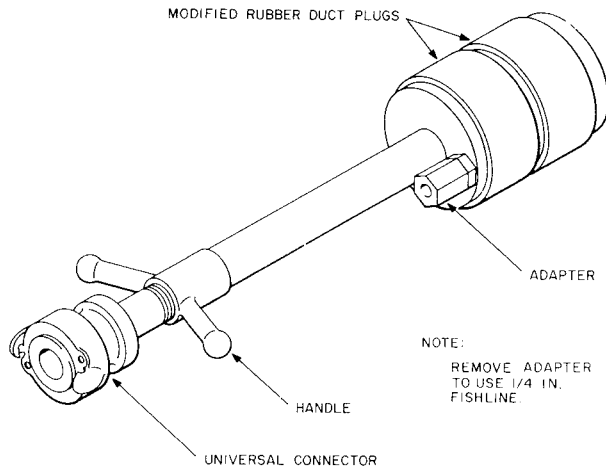
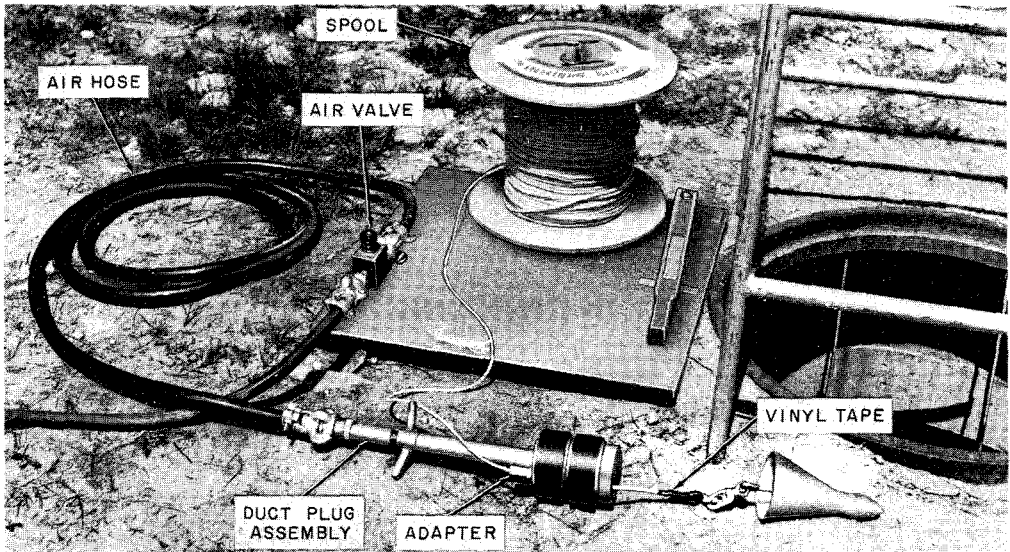

Fig. 5—Duct Plug Assembly
Fig. 6—Line Threaded through Duct Plug Assembly
Note: Remove adapter (Fig. 5) for runs exceeding 1000 feet and use 1/4-inch B Fishline.
4.04 Thread the end of the line through the adapter of the duct plug assembly (Fig. 5), then fasten the line to the swivel eye on missile with two half hitches. Apply about five turns of D vinyl tape to the line to secure the free end of the line (Fig. 6).